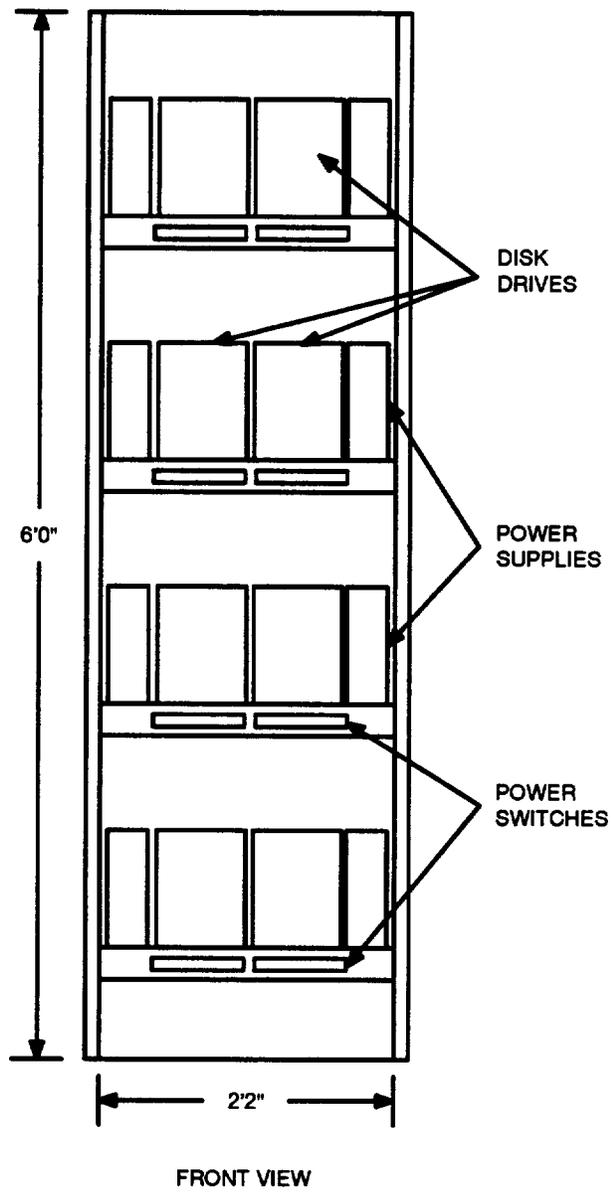

Figure 1. Disk Drive Frame
2.01 The 340-megabyte FSDs are located in the disk frame (J1C186A-1). Also, power supplies (KS-22997, L2) and power switches (ED-4C481) are located in the disk frame. The single-bay disk frame measures 6 feet 4 inches high by 2 feet 2 inches wide by 2 feet 6 inches deep (Figure 1). These dimensions include wheels supporting the frame for movability and a front door for protection.